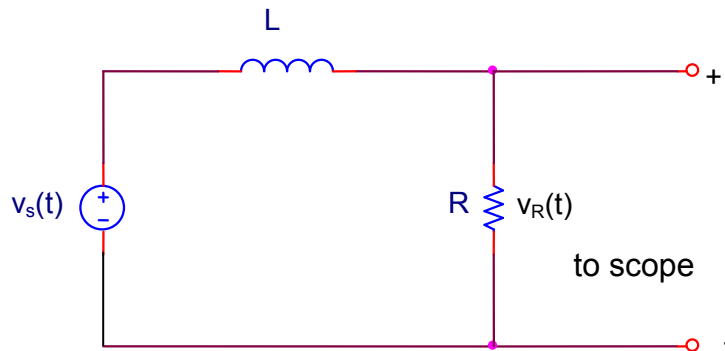

Figure 7.9
5. Construct the circuit of Figure 7.9. Use $R = 680\Omega$ and $L = 68\text{mH}$. Set the amplitude of $v_s(t)$ to a 1 volt peak-to-peak square wave. Adjust the frequency of the function generator for an adequate display of the resistor voltage as it decreases. Sketch the voltage and determine the time constant of your circuit from the sketch. Compare this value to the calculated time constant. Be sure to include the effects of R_{int} and R_{DC} into your calculations.